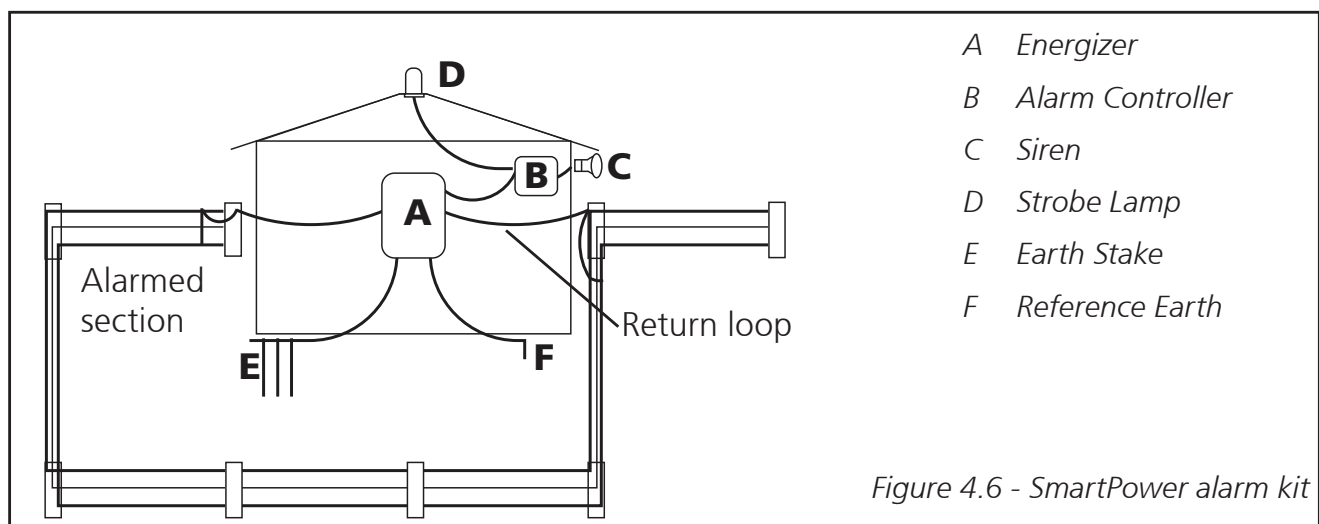

Figure 4.6 - SmartPower alarm kit
- Auto-dialer compatible (MBX version only) (see *Figure 4.6*)
- Includes security alarm features for monitoring a fence return loop. Alarms sound when the fence return loop is broken or shorted out (see *Figure 4.6*).
Note: If you are using a SmartPower energizer the earth monitor/alarm will indicate when the earth system requires attention (see Figure 4.6).